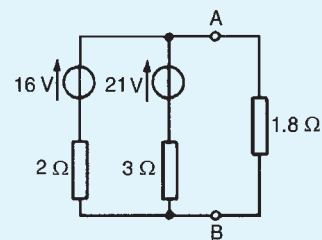

Figure 13.78
- (a) Convert the network to the left of terminals AB in Fig. 13.78 to an equivalent Thévenin circuit by initially converting to a Norton equivalent network.
(b) Determine the current flowing in the 1.8Ω resistance connected between A and B in Fig. 13.78.